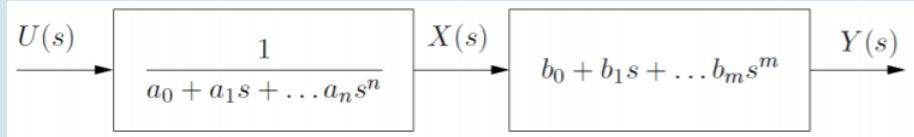

Figure 4.12: Splitting the transfer function.
1. Split the transfer function into two parts, as shown in figure 4.12.